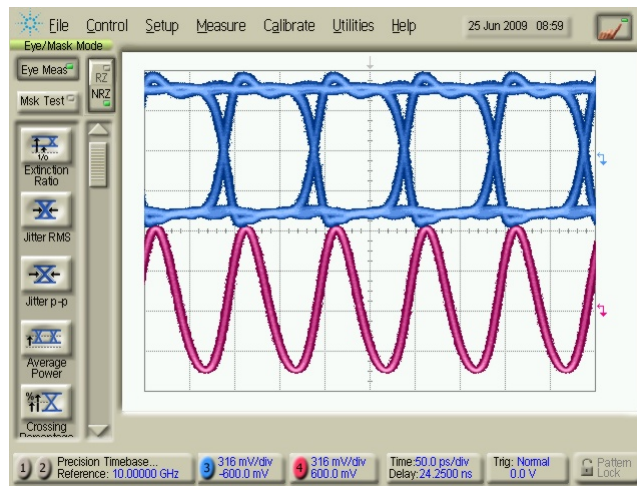

Figure 3. Installation setup waveform
- Verify that the waveform is similar to the one shown in Figure 3.